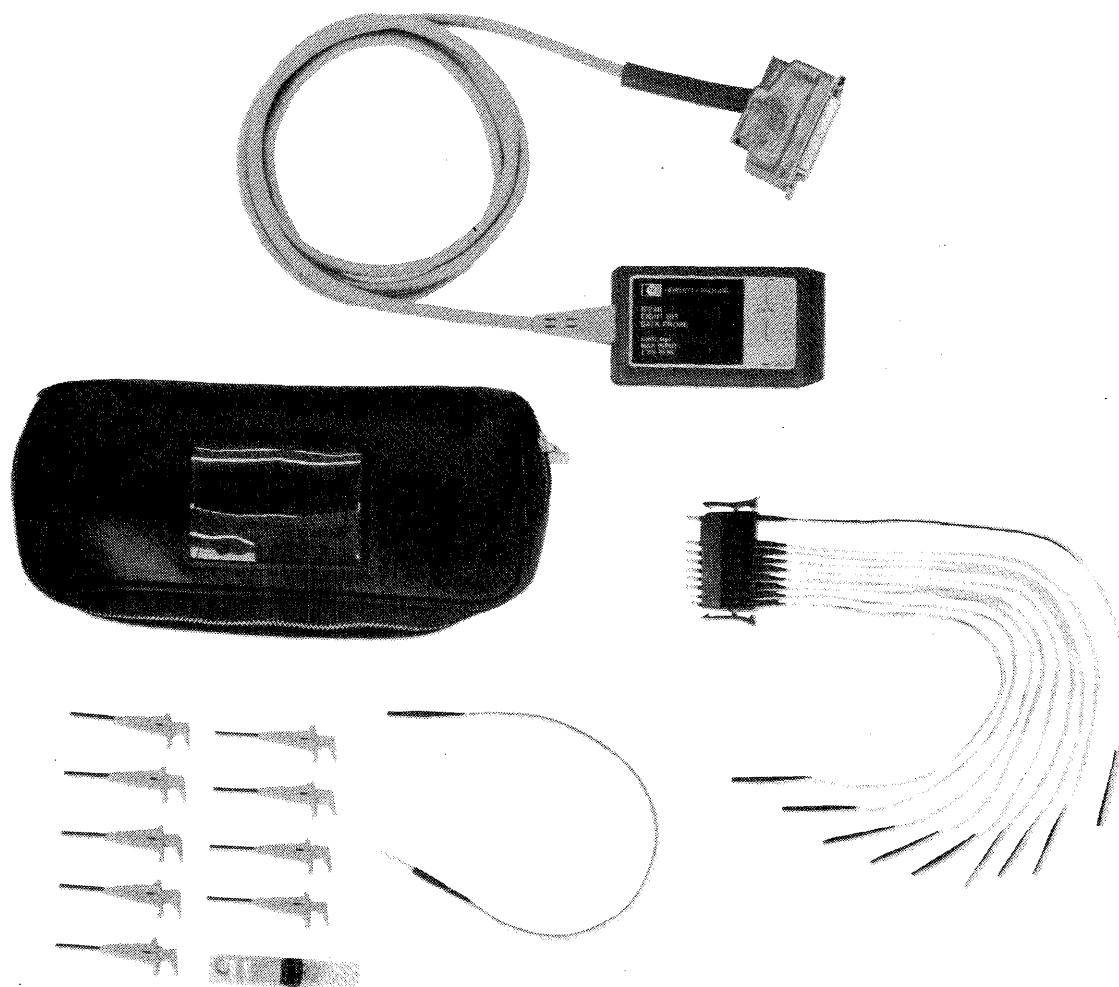

Figure 1. Model 10248C Eight-Bit Data Probe
2. The HP Model 10248C Eight-Bit Data Probe (figure 1) is an active probe that provides eight channels of digital data to an HP Logic Analyzer. Minimal loading of the circuitry under test is accomplished by placing active circuitry in a compact pod located near the point of test. The logic analyzer supplies +5 V and -5.2 V to the probe for operating power. A variable threshold voltage from the logic analyzer sets the threshold for logic recognition. Logic levels from the circuit under test are translated to ECL levels and provided to the logic analyzer. All connections to the logic analyzer are made through a 25-pin connector. Complete specifications and instrument compatibility for the 10248C are listed in table 1.